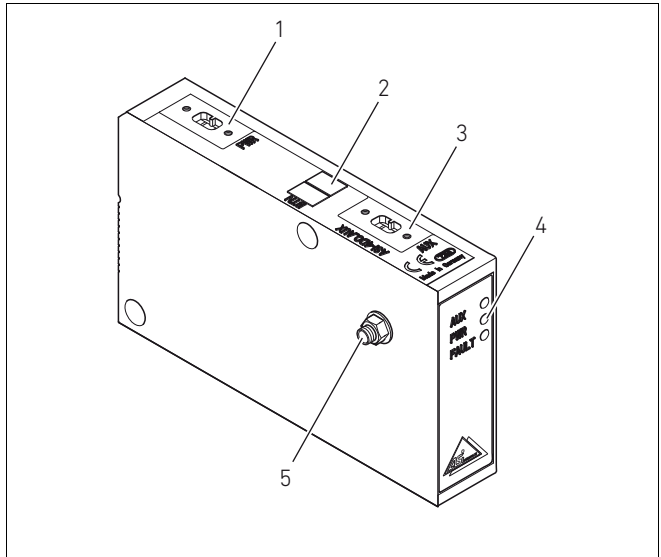

Fig. 5: Bus coupler, 4DO-AUX example
As an alternative, the FE connection (2) can also be made on the E end plate or directly on the AS-i (see Fig. 4 on page 58 and Fig. 5 on page 59).
- ▶ To do this, unscrew the screw for the FE connection (1) from the EP end plate of the VS and screw it into the FE connection (2) of the E end plate or directly in the AS-i. Then establish the connection with functional grounding there.
- ▶ Connect the grounding on the FE connection (2) of the E end plate or directly on the bus coupler (see Fig. 4 on page 58 and Fig. 5 on page 59).